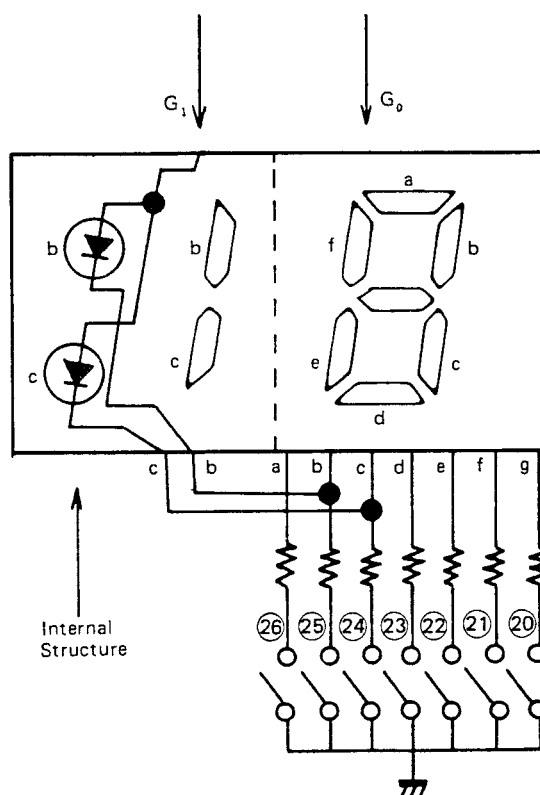

Figure 3-22
However, when the tape recorded at 15.625 kHz (50 Hz) frequency is put to playback at 60 Hz speed, the frequency of the resultant horizontal sync signal becomes approx. 18 kHz. when the tape recorded at 15.734 kHz (60 Hz) is put to playback at 50 Hz speed, the resultant frequency becomes approx. 13 kHz. Utilizing this difference frequency, the discriminator circuit is provided with the hysteresis characteristics as shown in Figure 3-22 to perform the discrimination operation. The hysteresis is controlled by the resistor R3005. The final output for discrimination is caused at pin ⑭, which becomes High level during the playback of 50 Hz sync signal and becomes Low level during the playback of 60 Hz sync signal in the same way as in the recording mode.